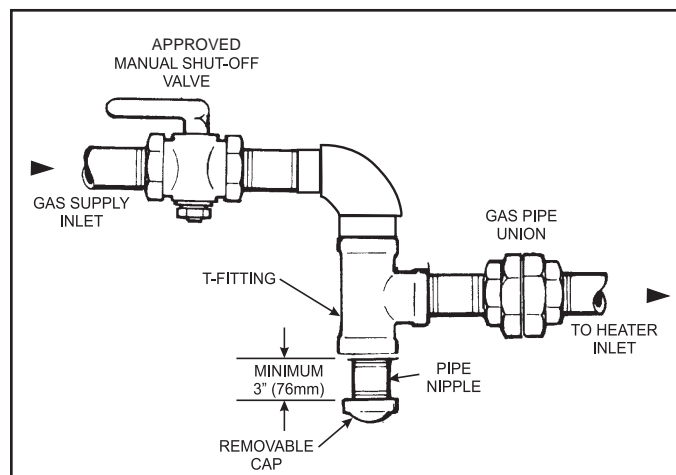

Figure 9. Proper Design for a Sediment Trap/Drip Leg
4. Install a sediment trap (drip leg) ahead of the gas controls, as shown in Figure 9. Fit the trap with a threaded cap which can be removed for cleaning.